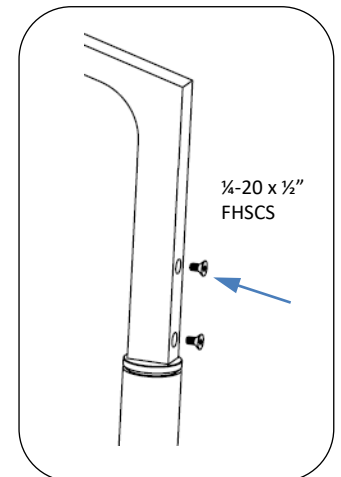

Fig. 2 – Install screws to secure arm
2. Carefully slide lighted arm over the bracket at the top of the round pole. Align two holes in back of arm. Secure with (2) 1/4-20 x 1/2" flat head socket cap screws, see Fig. 2.